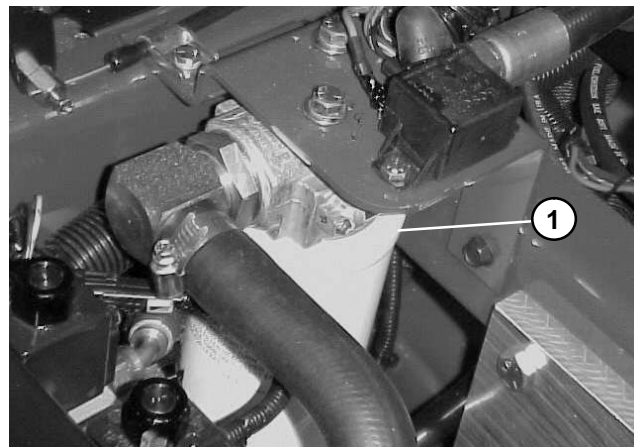

Figure 31
2. Clean area around filter mounting area. Place drain pan under filter and remove filter (Fig. 31).